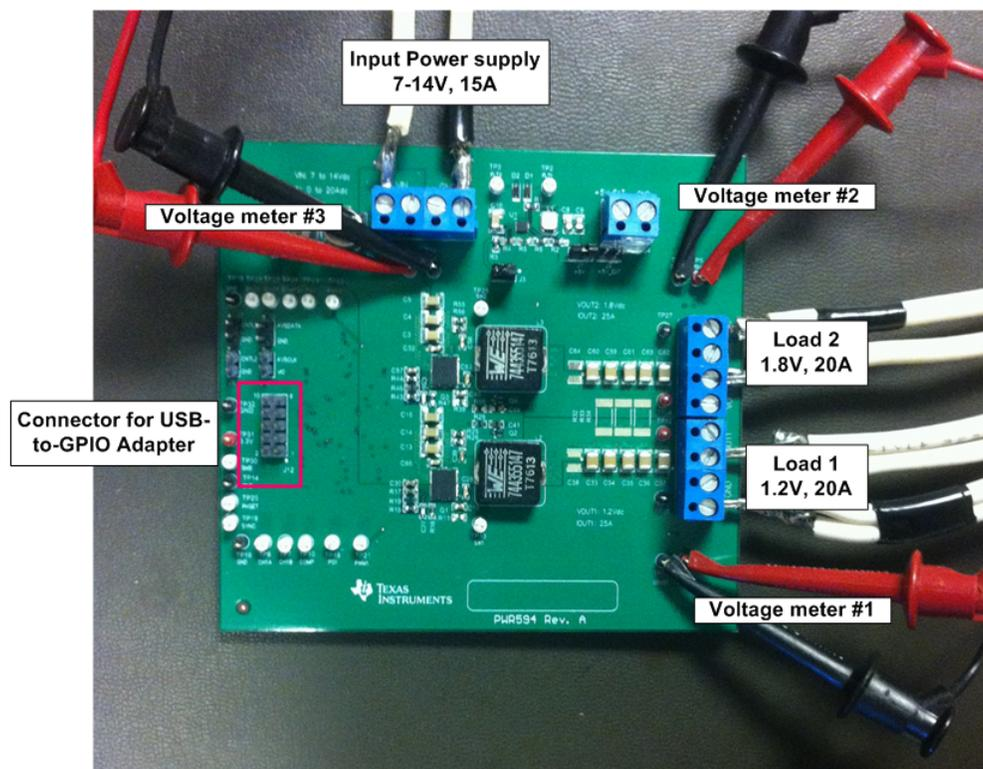
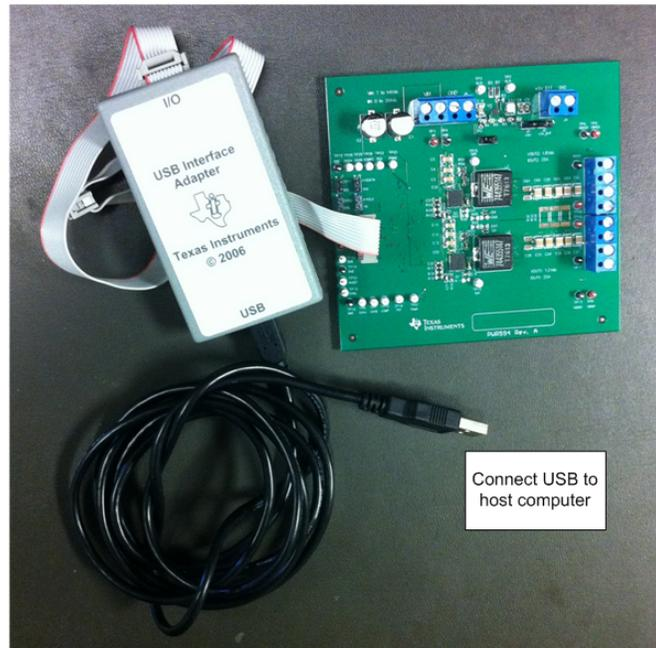

Figure 3. PWR594 EVM Recommended Test Set Up
Figure 4. Texas Instruments USB-to-GPIO Adapter and Connections
Fusion Digital Power Designer is the Graphical User Interface (GUI) used to configure and monitor the controller on this EVM. The application uses the PMBus protocol to communicate with the controller over serial bus via TI USB adapter (see Figure 4).
Voltage Source: The input voltage source V_{IN} should be a 0-V to 14-V variable DC source capable of supplying 15 ADC. Connect V_{IN} to J5 as shown in Figure 3.
Multimeters: It is recommended to use three separate multimeters as shown in Figure 3. One meter to measure V_{IN} , the other two to measure V_{OUT1} and V_{OUT2} .
Output Load: Two variable electronic loads are recommended for the test setup as shown in Figure 3. Both Load 1 and Load 2 should be capable of 20 A.
USB-to-GPIO Interface Adapter: A communications adapter is required between the EVM and the host computer. This EVM was designed to use the Texas Instruments USB-to-GPIO Adapter, see Figure 4. This adapter can be purchased here: <http://www.ti.com/tool/usb-to-gpio>.
Figure 3 shows the recommended test setup.
Figure 4 illustrates the USB interface adapter and cable.
2. Apply the input voltage to the EVM. Refer to Figure 3 and Figure 4 for connections and test setup.
1. Set up the EVM as described in Figure 3.